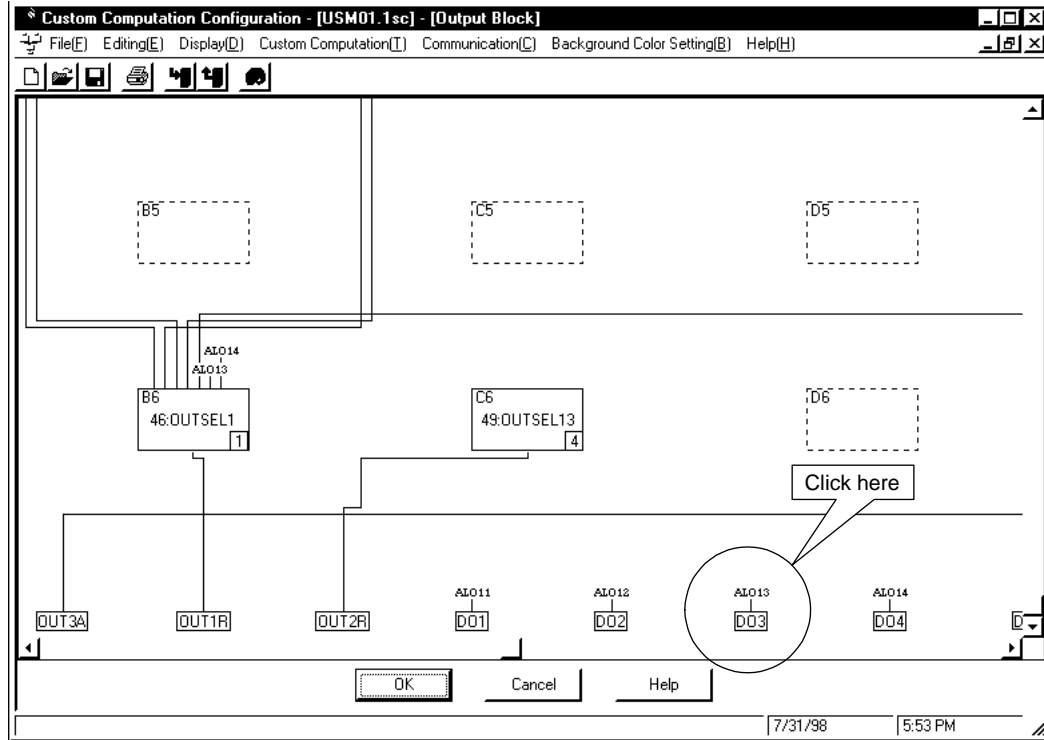

Figure 12.5.13 [Output Block] Dialog Box
- ① In the [Output Block] dialog box (Figure 12.5.13), click the <DO3> output signal.